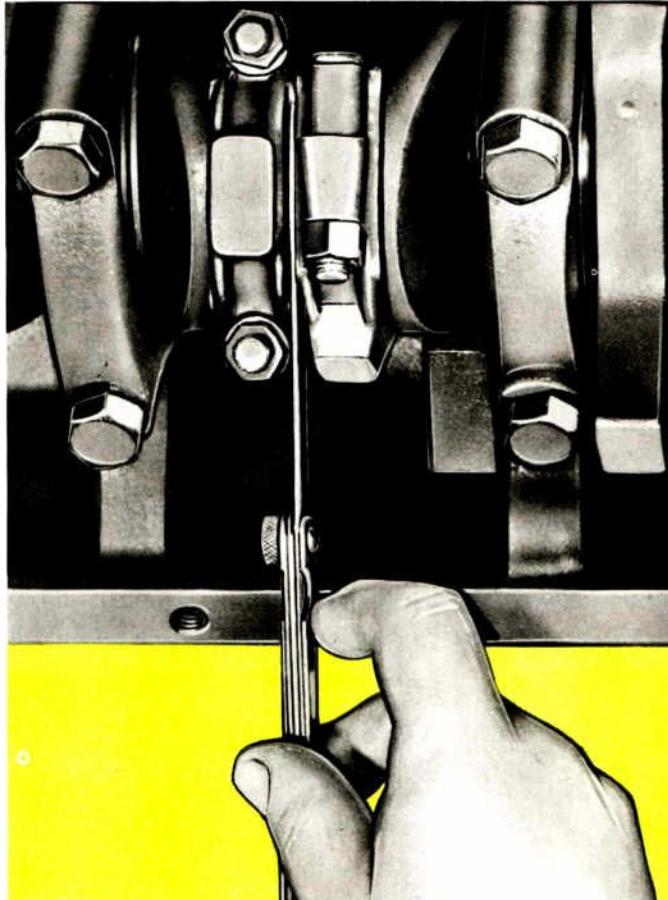

FIGURE A-15. CHECKING ROD SIDE CLEARANCE
- After all piston and connecting rod assemblies have been installed, check the side clearance between the connecting rods on each crankshaft journal. (See Figure A-15.)